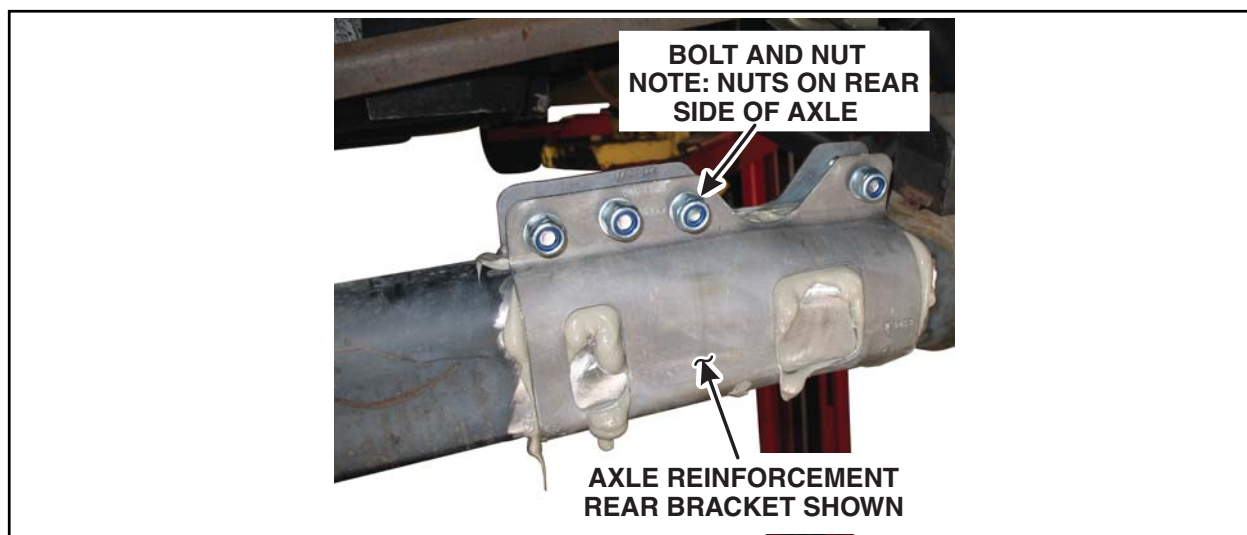

FIGURE 8
11. Pinch the axle reinforcement bracket flanges together and insert bolts from the front, pointing away from the fuel tank. Finger tighten nuts. See Figure 8.